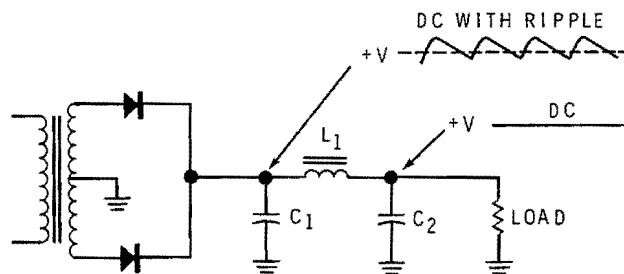

Figure 4-21
The next step in filters is the inductor-capacitor (LC) filter. A common type of LC filter is shown in Figure 4-21.  $C_1$  performs the same functions as discussed earlier. It reduces the ripple to a relatively low level.  $L_1$  and  $C_2$  form an LC filter which reduces the ripple even further.